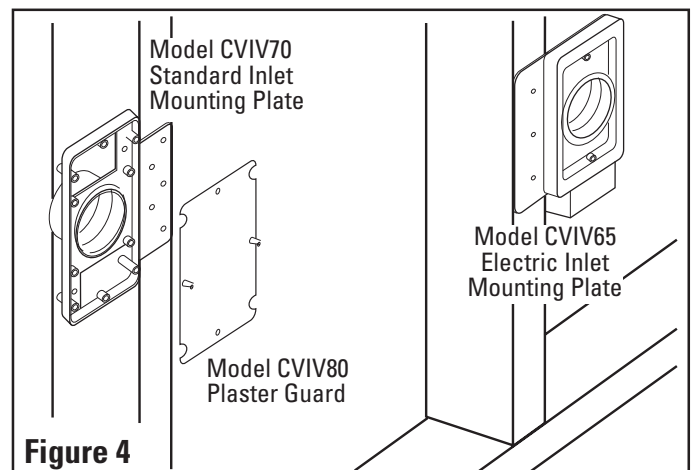

Figure 4
- Using flush mounting screws (not provided) install the appropriate inlet mounting plate to the wall stud (**Figure 4**).